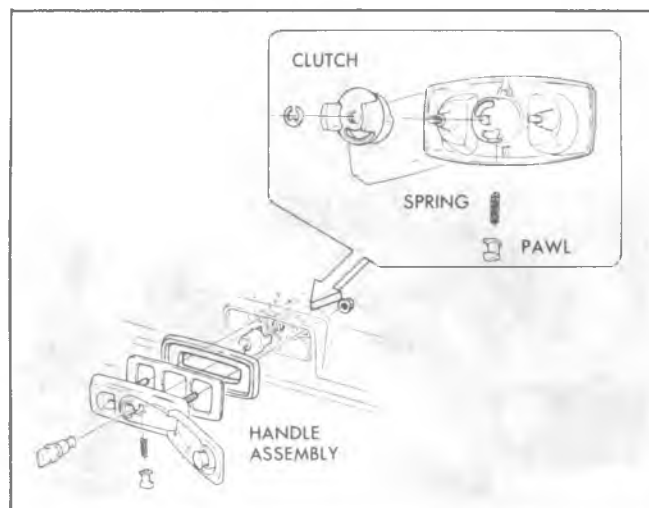

Fig. 2D-61--Outside Handle (06 and 16)
3. With an assistant, raise endgate part way, then disconnect support cables from endgate. See figure 2D-62.
body, figure 2D-63, then grasping torque rod with one hand and pulling torque rod over gravel deflector, as shown in figure 2D-64.